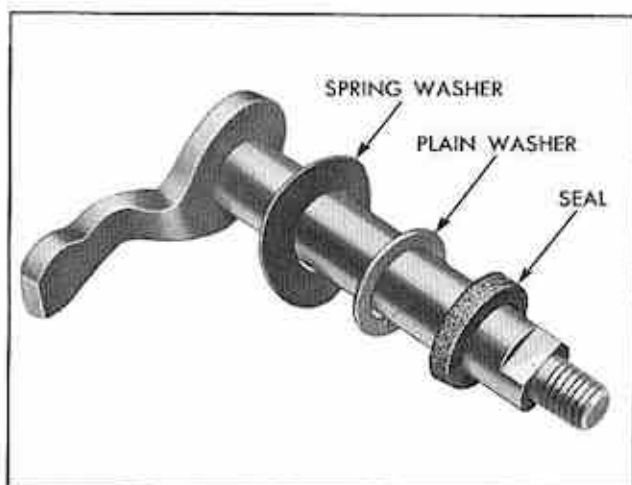

Fig. 37 Inner Selector Lever Shaft Assembly
4. Place spring washer, flat washer, and oil seal on selector lever shaft in order named, with crowned side of spring washer against flat washer (See Fig. 37). Apply lubriplate to shaft and assemble into transmission case. Then install outer selector lever.